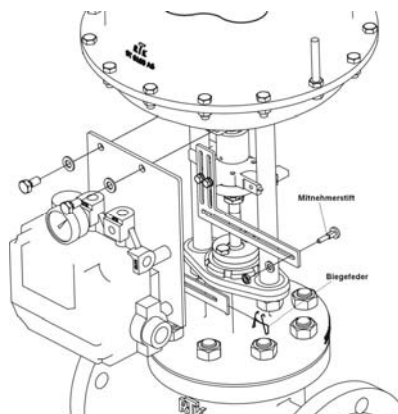

Figure 5
3. Mount the retaining plate to the SR 1000 L using two M8x16 hexagonal screws on the connecting flange. See figure 5
5. Secure the actuating pin on the guide rail but do not yet tighten the M5 nut. The actuating pin is pressed from the spring onto the side of the slot inside the lever. This allows for movement without clearance. See figure 5